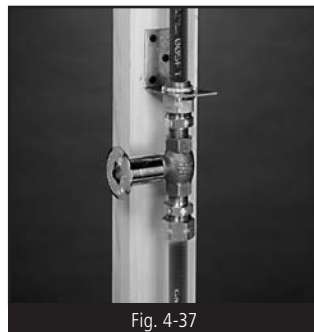

Fig. 4-37
b) Fireplace key valves (Fig. 4-37) – FlashShield™ CSST connections to fireplace key valves can be located in a concealed location when accessibility is not readily provided.